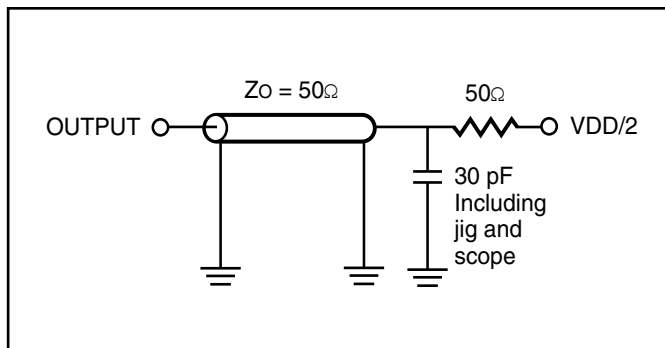

Figure 1.
1. Test conditions and output loading conditions are specified in the AC Test Conditions and ACTest Loads (Figure 1).